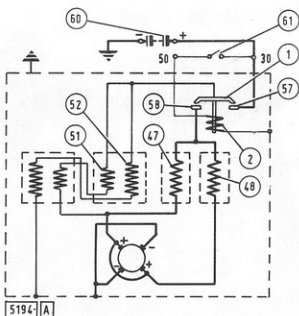

Fig. 249 - Starter Wiring Diagram
- Four windings, two of which include the coils (2 each) making up the auxiliary windings (in series and in parallel - 51 and 52, Fig. 249, respectively), whilst the other two include one coil each completing the main field winding (47 and 48).